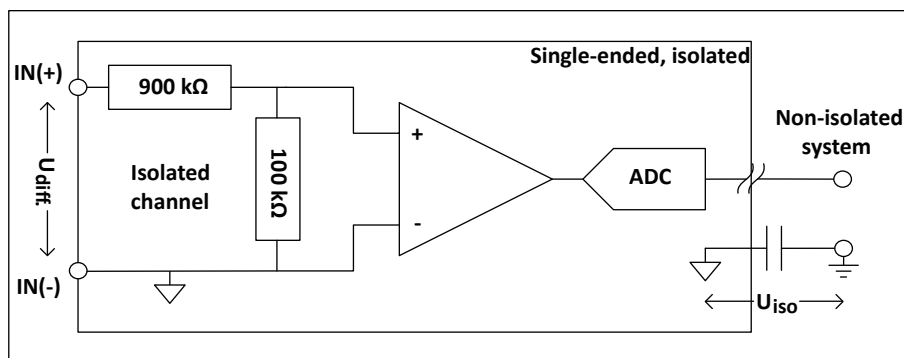

Figure 12.58: Single-ended isolated input channel
- The isolated ground is externally accessible, as shown in Figure 12.58.